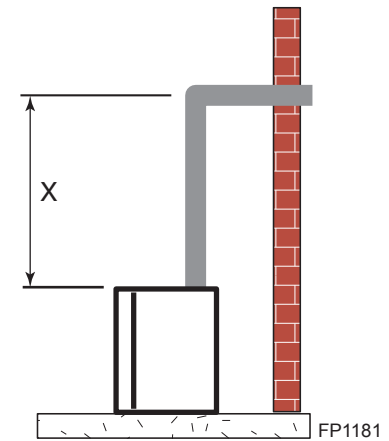

Figure 16 -
Place fireplace into position. Measure the vertical height (X) required from the base of the flue collars to the center of the wall opening. *Figure 16*